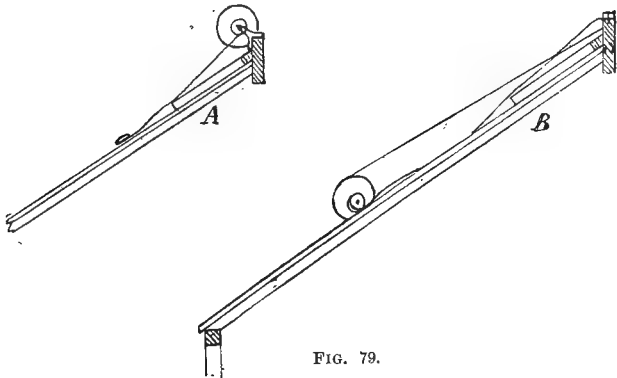

FIG. 79.
There are two chief methods by which greenhouse blinds (which are always placed outside, of course) may be fixed:—(1) with a *fixed* roller at the top (apex of the roof) after the manner of an ordinary window blind, as at A in Fig. 79, and (2) with the blind fixed at the top and a moveable roller fastened to its lower edge,
as at B, in Fig. 79. The former would, at first sight, appear to be the better system, but in practice it has been found wanting, and all the best makers now fix their blinds by the second method. The great disadvantage of the first-named method is that a roller of more than a few feet in length is sure to "sag" more or less badly in the middle, under its own weight and that of the (possibly wet) blind, while there is no means of supporting it except at the ends. Then a multiplicity of short blinds and rollers is a thing to be avoided on several accounts, and lastly, the strain of several, or many, of the